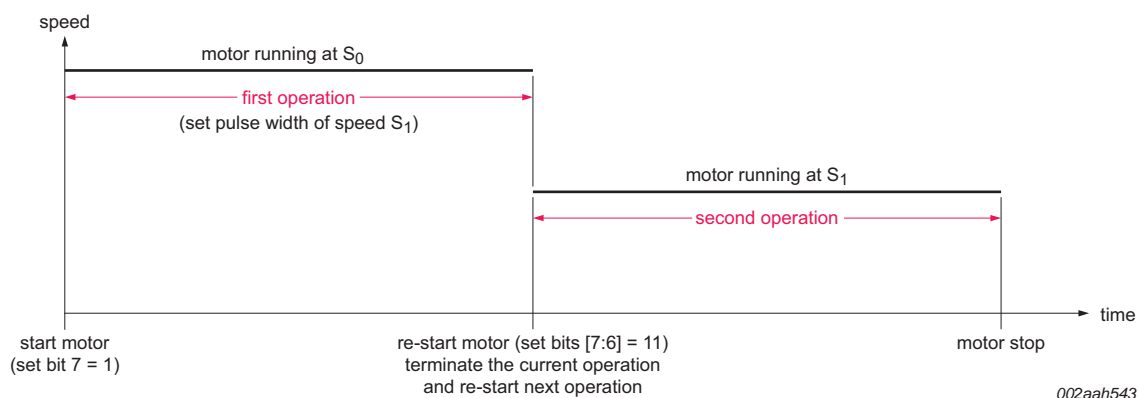
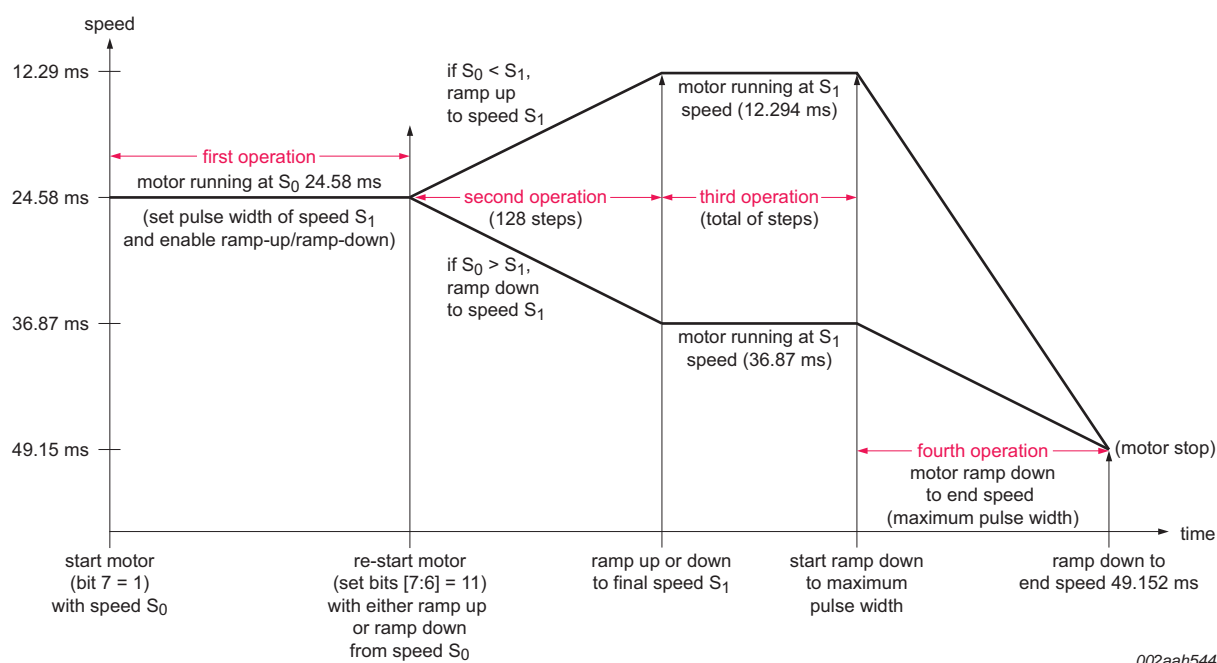

Fig 13. Re-start motor with ramp-up/ramp-down disable while current motor running in the final speed
Fig 14. Re-start motor with ramp-up/ramp-down enable while current motor running in the final speed
- Set re-start motor bit to '1' while the current motor is running (bit 7 = 1) in the final (top) or target speed (S_0), the re-start motor action will take place immediately based on the new motor parameter registers setting. If both ramp-up/ramp-down are disabled, it will change to new speed of S_1 immediately as shown in Figure 13. If both ramp-up/ramp-down are enabled, it will go to new speed of S_1 with either ramp up ($S_0 < S_1$) or ramp down ($S_0 > S_1$) as shown in Figure 14.